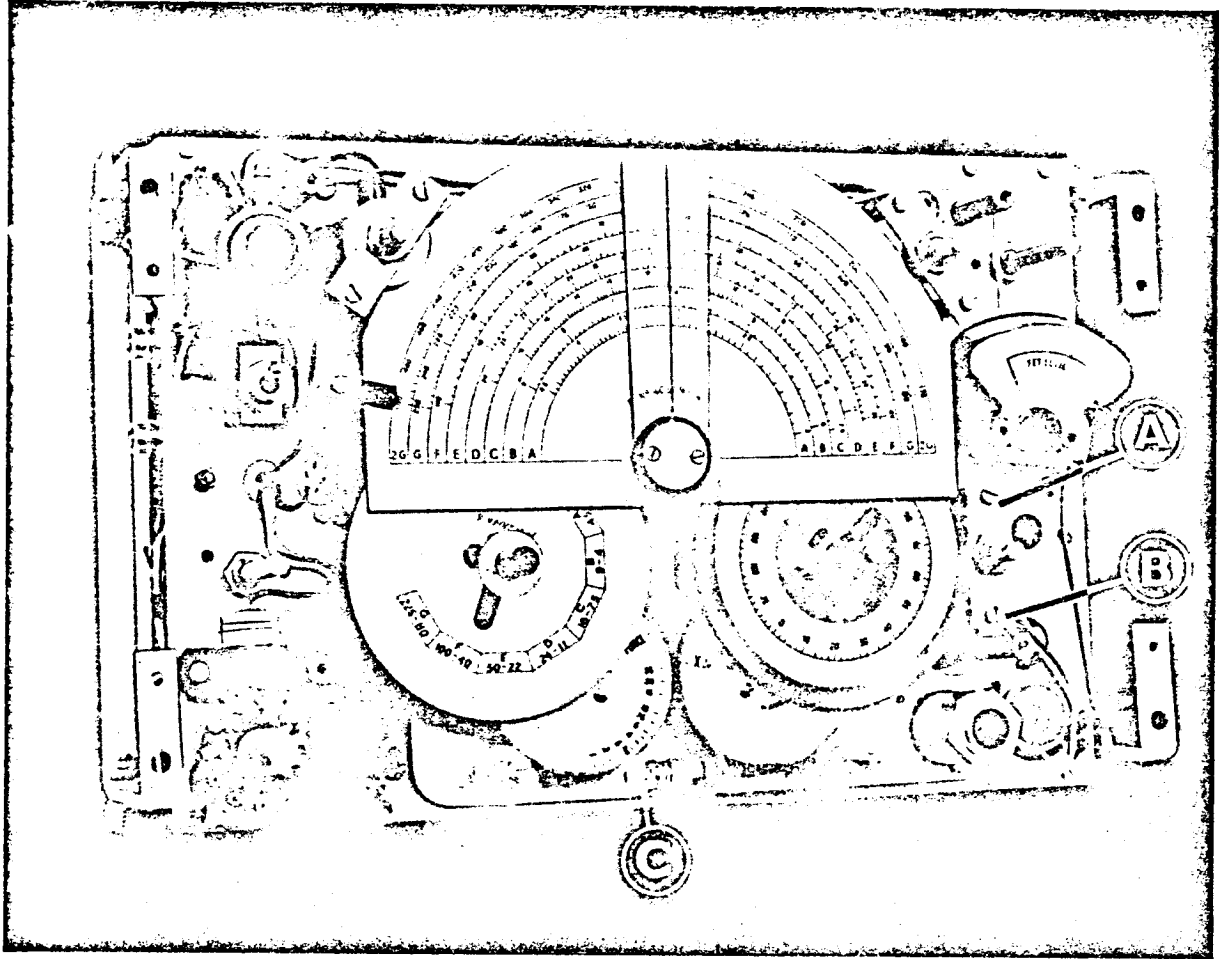
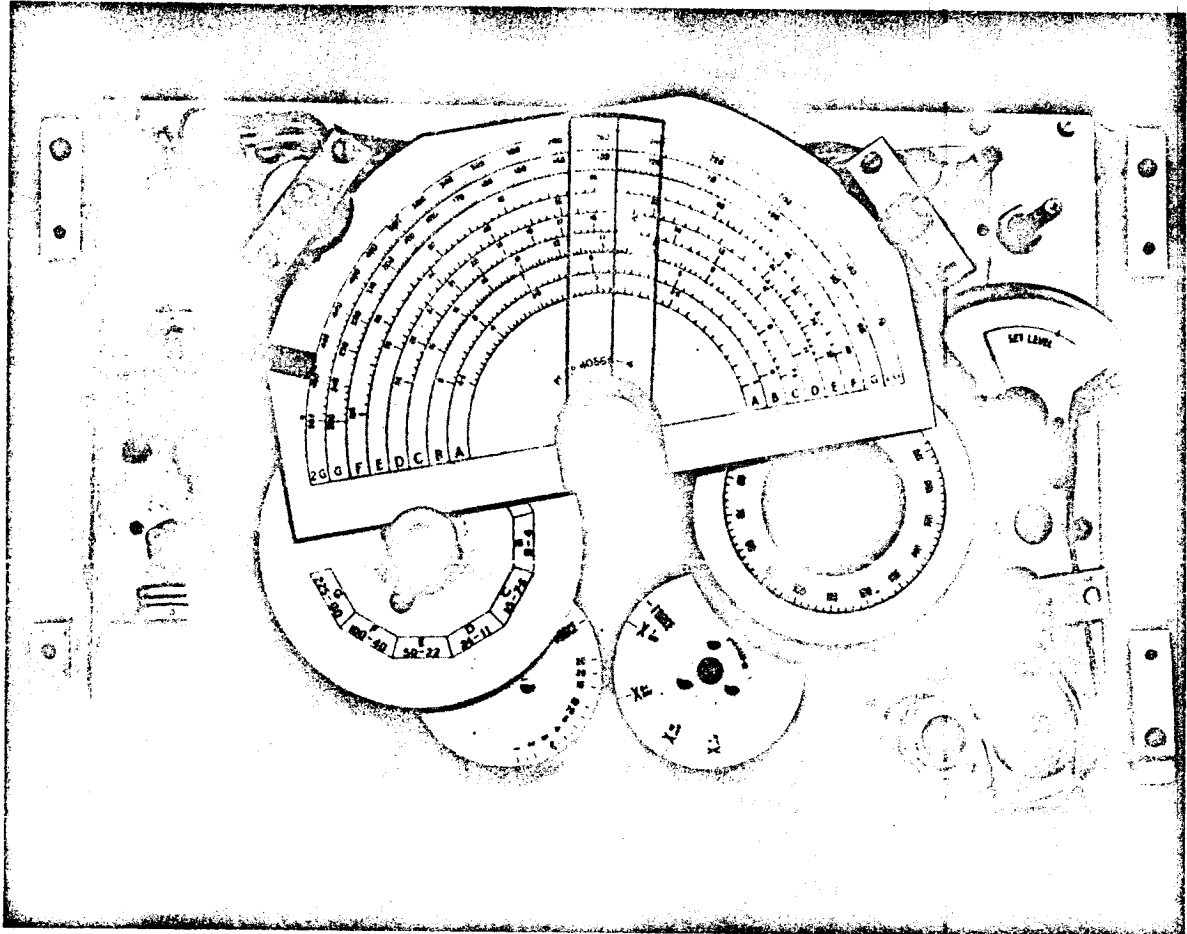
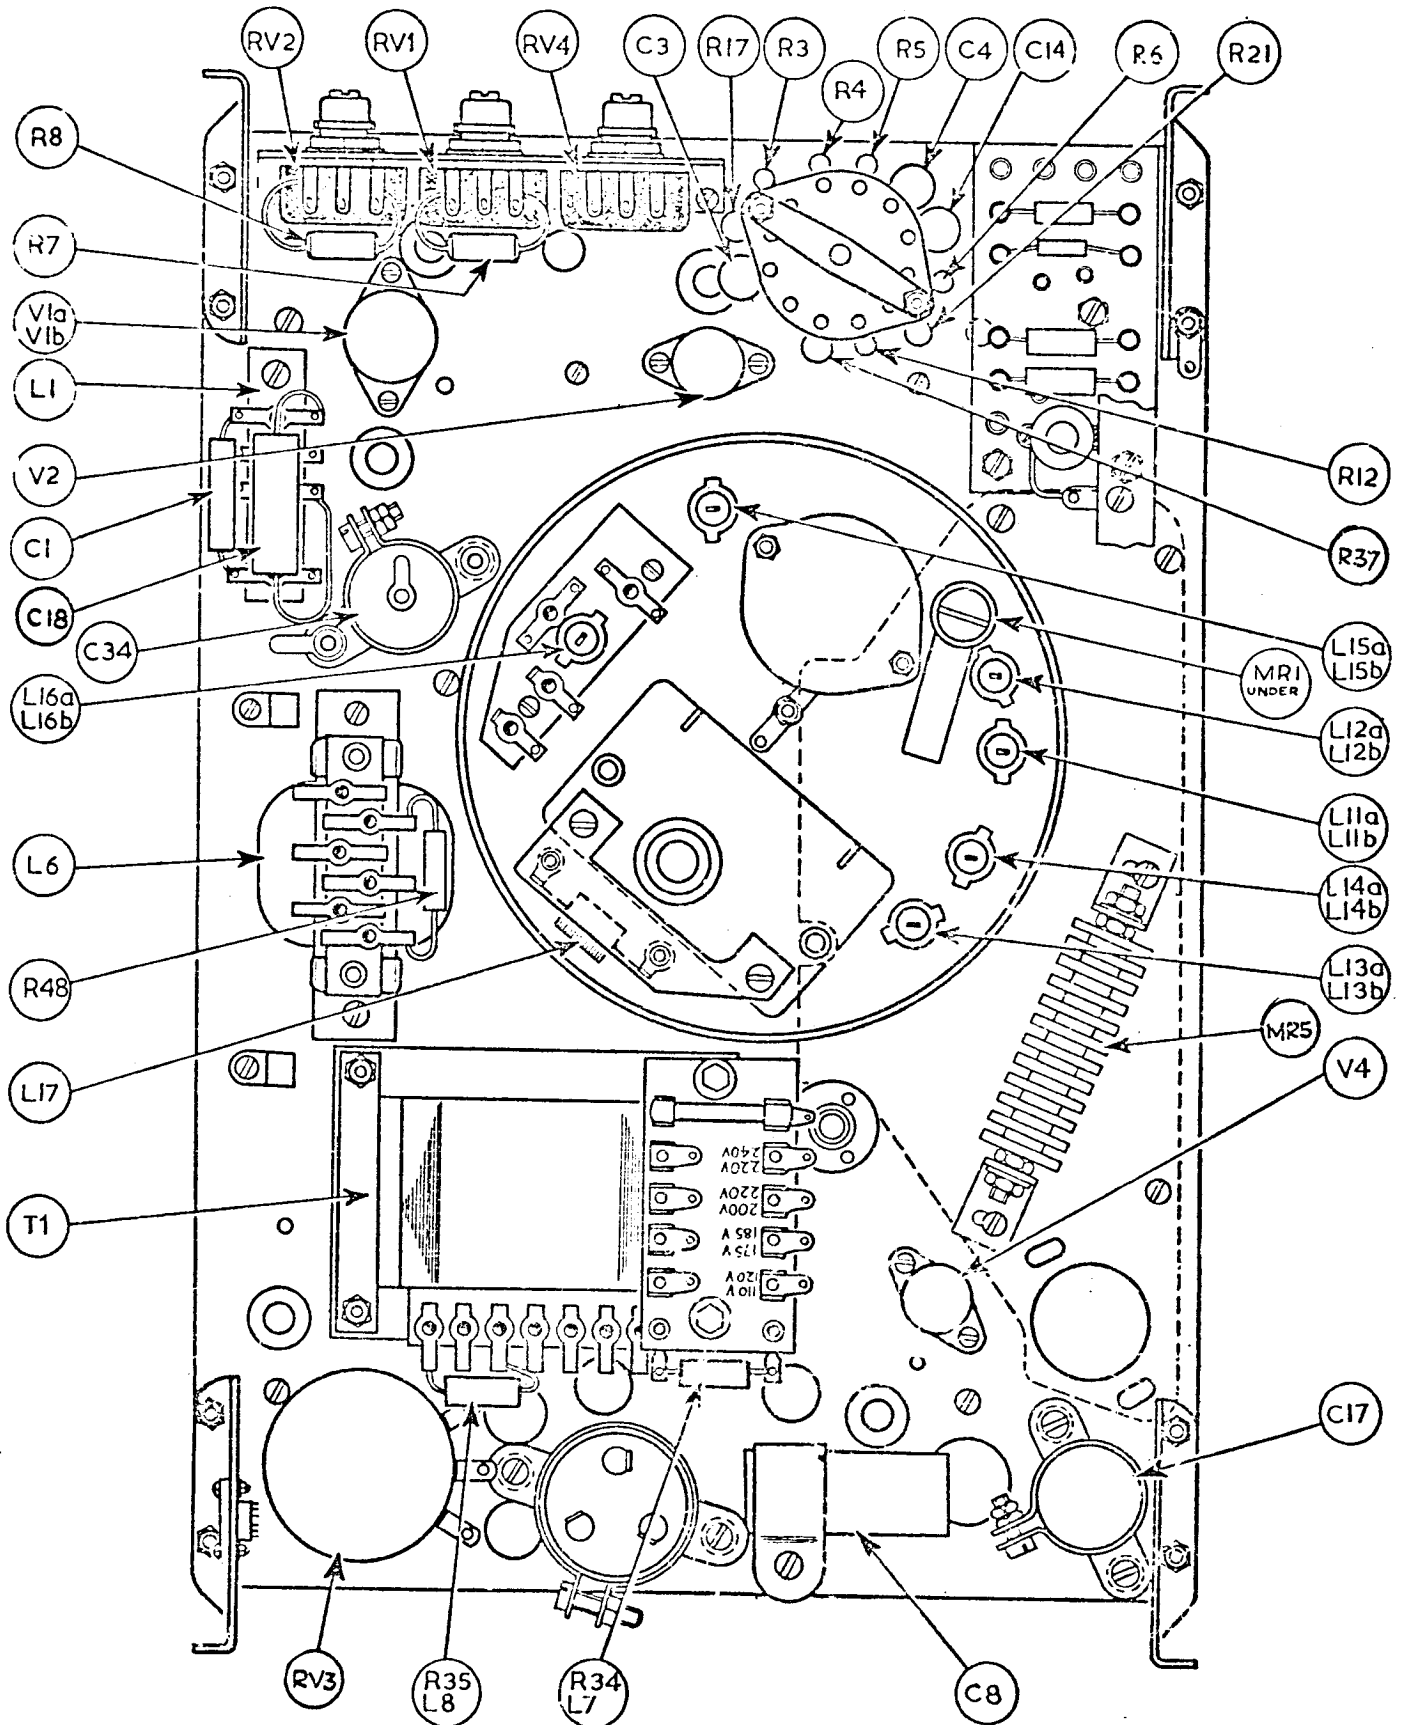

Fig. 2.2.1
Fig. 2.2.2
Fig. 2.2.9
- (1) Mark and unsolder three wires from the output terminals below the control panel, also the modulator bias lead.
- (2) Unscrew the retaining rings from the MAINS input plug and MAINS switch so that they will drop through the panel.
- (3) Remove knobs and carrier from control spindles by removing the screw in the top of each knob, and then extracting the retaining pin from each knob carrier. Unscrew the knurled ring from the ENGAGE FINE CONTROL. Note the washers.
- (4) Remove carrying handles.
- (5) Remove the retaining nut from the MOD. switch so that it can drop through the panel.
- (6) Remove eight fixing screws from the control panel.
- (7) Remove movement fixing nuts from SET LEVEL INDICATOR.
- (8) Lift off control panel. (See Figure 2.2.1).
- (9) Remove bolt in pillar 'A' and loosen the other 'B' holding the drive to the right hand uniformly calibrated dial, and swing assembly away from dial. Remove bulb holder 'C'. (See Figure 2.2.2).
- (10) Set the Cursor to the low frequency-F.H.S. end of scale and turn instrument over. Carefully unscrew circular screening can from r.f. compartment.
- (11) Remove plug covering feed from compartment to the attenuator. Unsolder connections, and remove internal screwed insert. (This plug is shown in Figure 2.2.9 adjacent to L12A and L12B labelled 'MR1 Under').
- (12) Turn instrument back to its original position, and unsolder wire entering attenuator from the tag-board on the left hand side of the attenuator.
- (13) Remove the seven screws holding the attenuator to the main chassis. The heads of the screws are on the Mains transformer side of the plate. Two of the screws hold down the back cover of R.F. output plug.
- (14) Remove the hexagonal pillar that holds screw A (Fig. 2.2.1). Place the right hand uniformly divided dial into the position shown in Figure 2.2.2. Turn the spindle until the hole in the circular plate beneath the calibrated dial lines up with the plug-nut in the attenuator casting. Loosen this plug-nut.
(26) When replacing the complete attenuator into the chassis it has been found convenient to remove the original short wire and to solder nine inches of about 22 s.w.g. tinned copper wire on to the attenuator input. Pull the free end carefully through the housing labelled:- "MR1 under" in Fig. 2.2.9 as the attenuator is slipped into place.